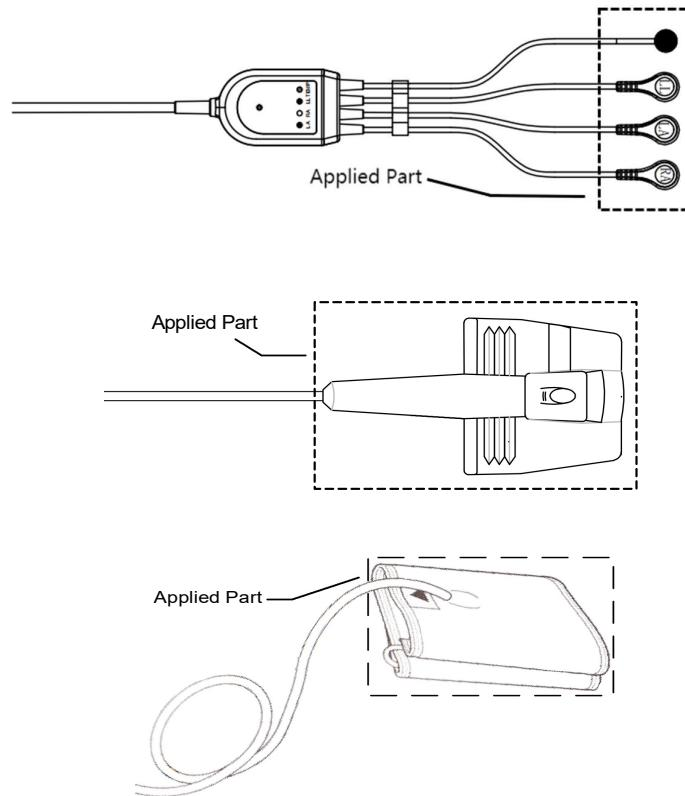

Figure 3-5 Applied Parts
- The applied parts of Patient Monitor are TEMP cable, NIBP cuff and SpO₂ sensor refer the Figure 3-5 below.